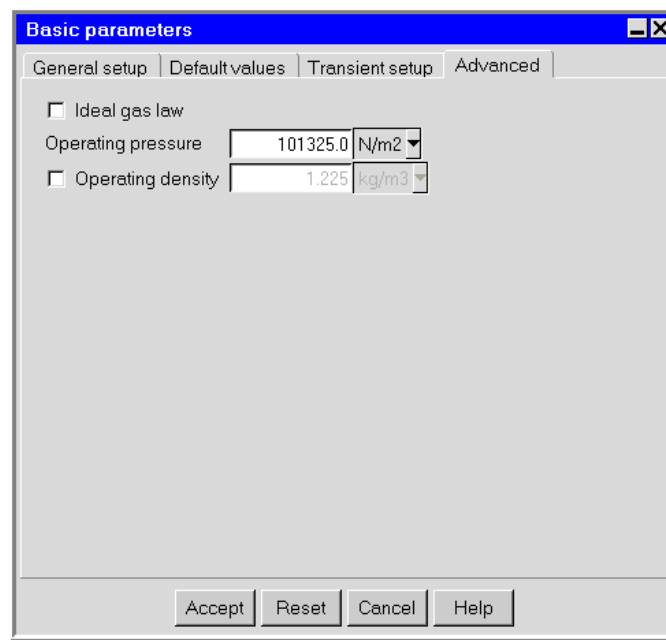

Figure 6.4.3: The Basic parameters Panel (Advanced Tab)
1. Click the **Advanced** tab in the **Basic parameters** panel (Figure 6.4.3).